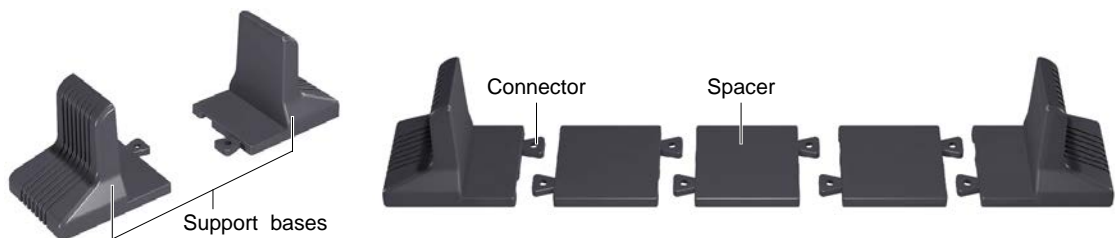

Figure 5-1 Support bases
1. Take the support bases out of the accessories bag (see Figure 5-1).
3. Connect the spacers and the support bases as shown in Figure 5-1. Each Liebert GXT4 needs two assembled support bases, one in the front and one in the rear.